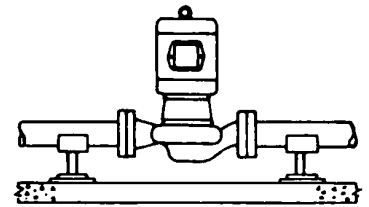
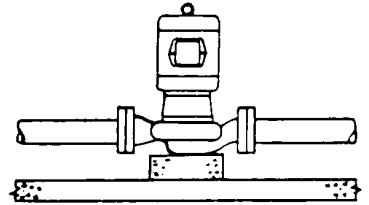

Fig. 3 Floor Saddle Support
Fig. 4 Additional Floor Support
- (c) Floor mounted saddle supports (Fig. 3) Where required, additional floor support may be obtained as shown in Fig. 4. The piping must be installed in such a manner that the pump is not used as a pipe support. When the pump is installed as per Fig. 4, it is necessary to have a vibration isolation pad and use flexible connectors.